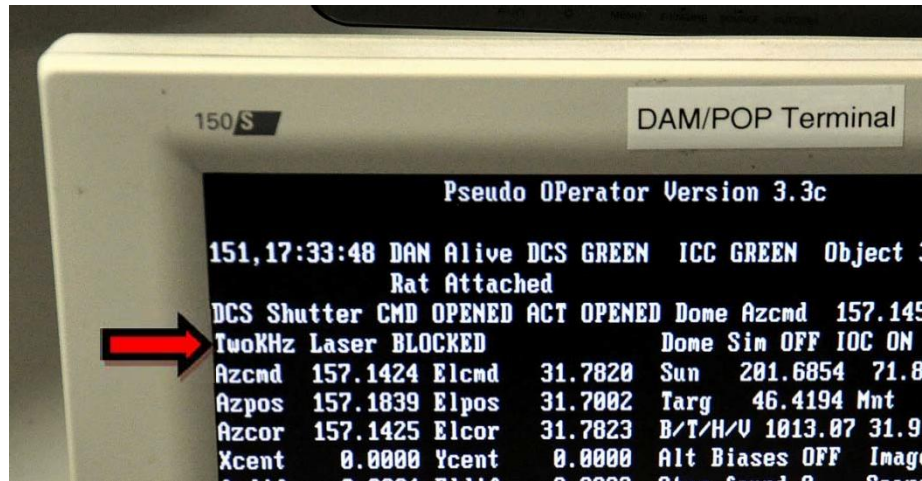

Figure 4-13: “TwoKHz Laser BLOCKED” message on the DAM/POP terminal
6. **Look for Two kHz Laser Blocked** – When the system is ready, the message “TwoKHz Laser BLOCKED” will flash on the POP screen (Figure 4-13).
When the LHRS radar senses an aircraft getting close to the laser beam, it will immediately block the laser. When the aircraft detect is clear, the message “TwoKHz Laser BLOCKED” will flash on the POP screen (Figure 4-13). Check the camera monitor to ensure that the aircraft has passed, then push the ENABLE button on the Remote Laser Enable Control Box to re-enable the laser.